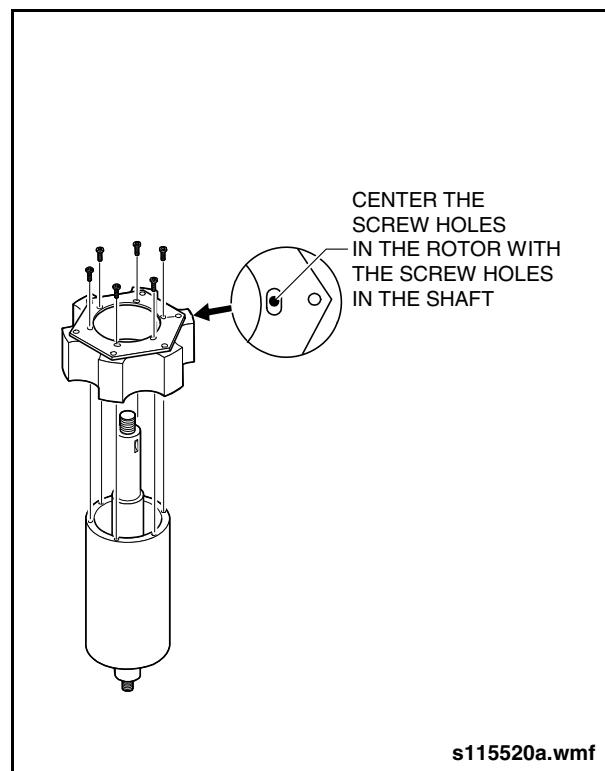

Fig. 9-28: DE Rotor Installation
- a. Place DE rotor on shaft. Center the screw holes in shaft with the screw holes in rotor face. See "Fig. 9-28: DE Rotor Installation" on page 33.